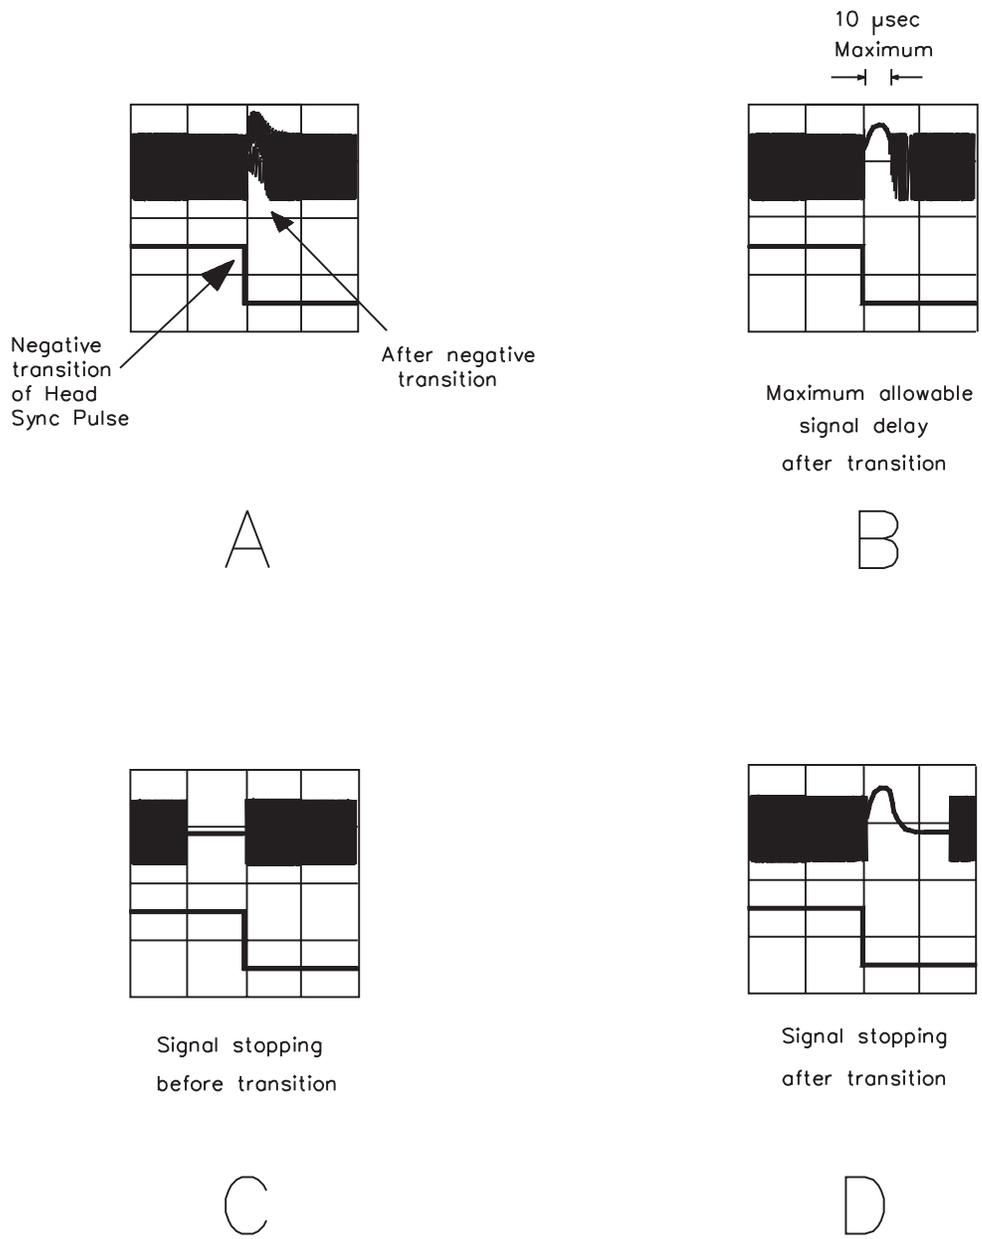

Figure 18-3
10. Compare the data signal from the head sync tape (channel 1) to the head sync signal to determine whether you need to adjust the head sync timing. Figure 18-3 shows correct and incorrect waveforms.